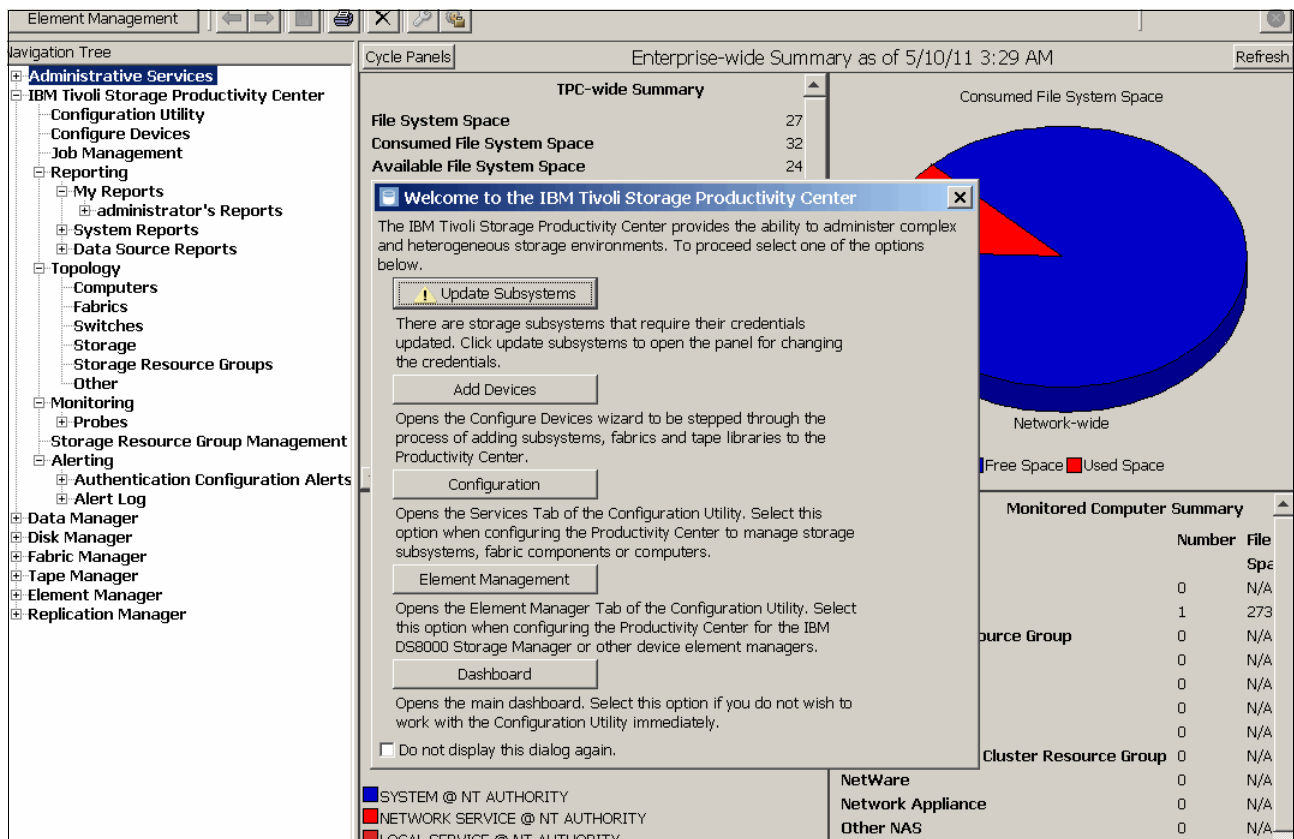

Figure 12-4 Tivoli Storage Productivity Center Welcome window
3. The Welcome window to the IBM Tivoli Productivity Center panel opens if it was not disabled before this procedure, as shown in Figure 12-4.